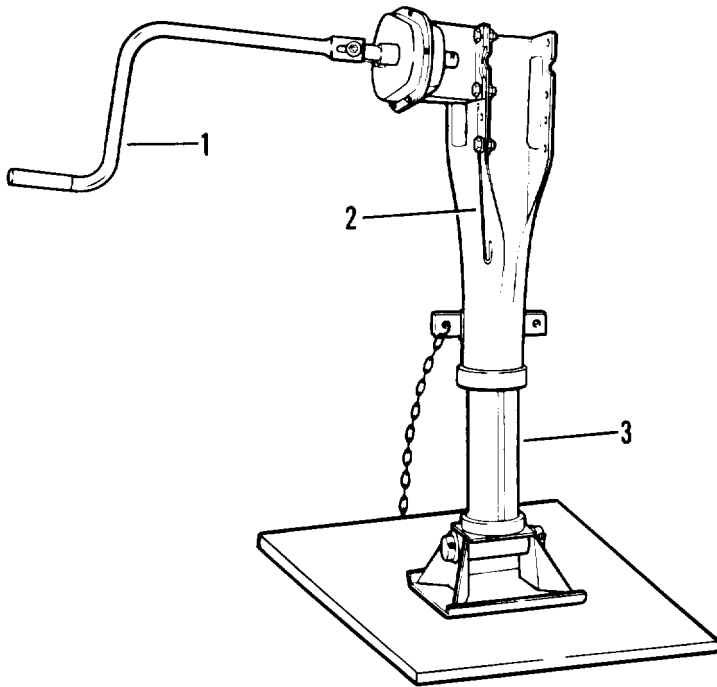

Figure 2-20. Landing gear
- (1) Unhook crank (1, figure 2-20) from crank holder (2).
- (2) Raise crank (1).